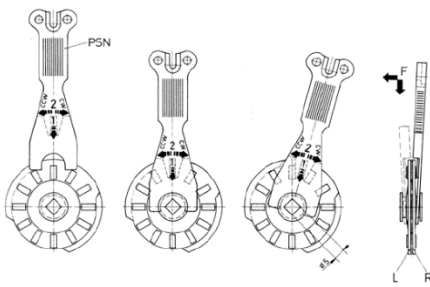

Figure 6. How to Program Cams with the PSN Programming Tool
2. Strip wire ends approximately 5-6mm (0,22") length. Using a slotted screwdriver, loosen screws of Phoenix Contact terminal block, insert wire end and close contact by tightening screw (see **Figure 6**).